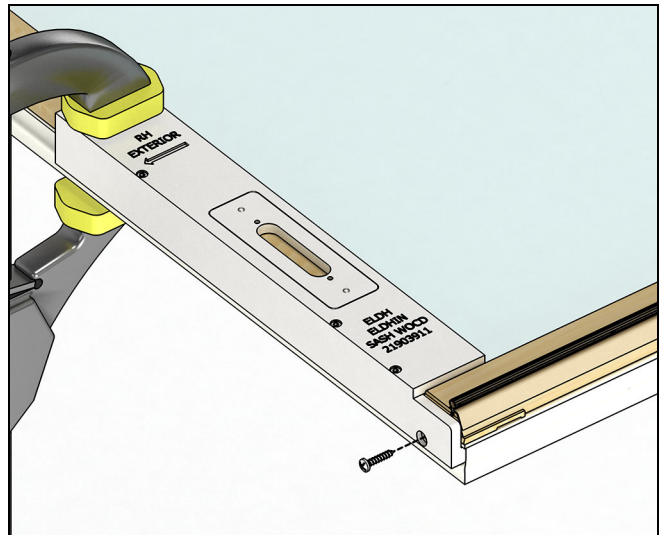
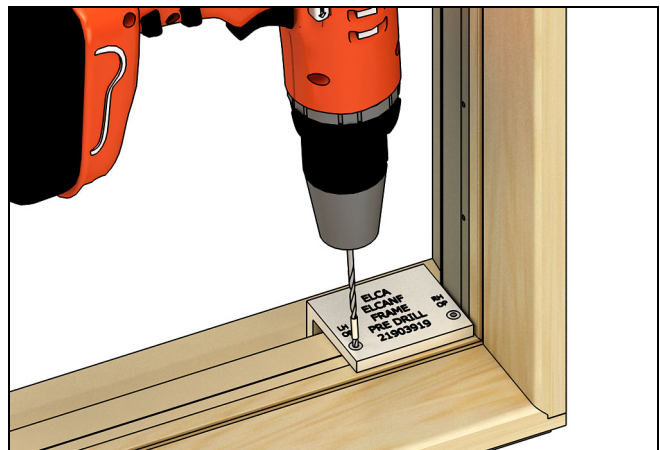

Figure 1 Frame prepared to be drilled.
Figure 2 Proper frame jig placement.
6. Place frame jig on exterior sill and place tight against the locking-side jamb. Apply constant pressure to avoid jig movement while drilling. See Figure 1 and Figure 2.